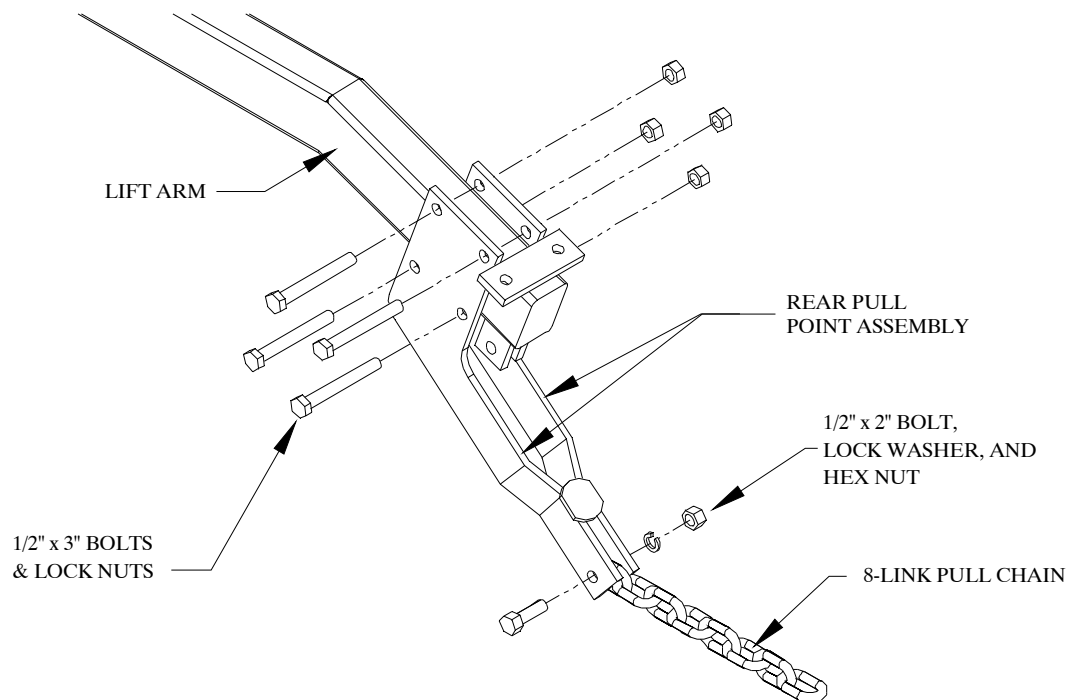

**Figure 11**
3. Bolt an 8 or 10-link pull chain in between each of the lift arm pull points. (10-link for 8-bar harrow sections; 8-link for all other configurations.) Use 1/2" x 2" bolts, lock washers, and hex nuts. Refer to Figure 11.